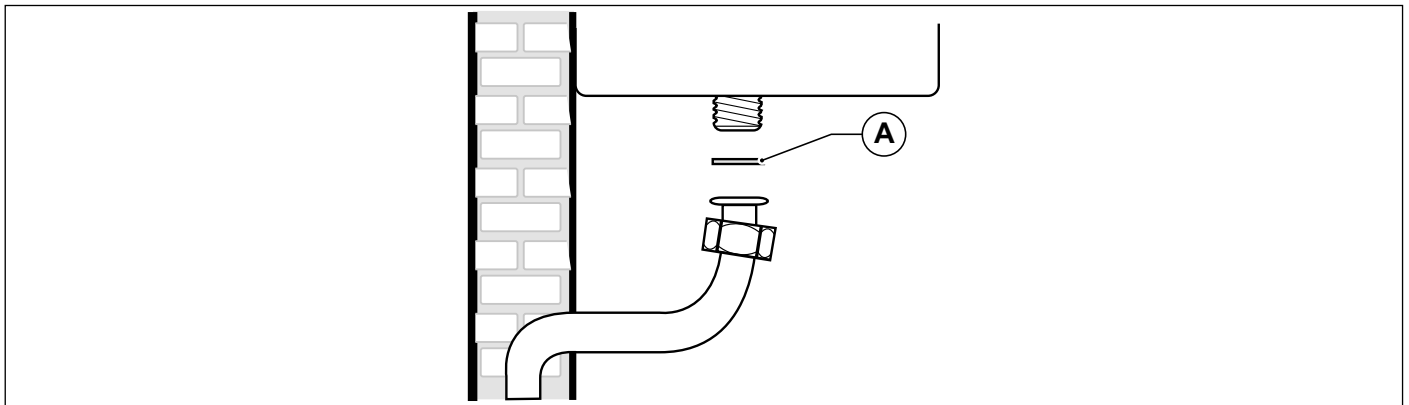

Fig. 17 Connection to gas mains
**When connecting the boiler to gas supply network, it is COMPULSORY to install an appropriately sized gasket (A) made from suitable material (see Fig. 17 Connection to gas mains).**